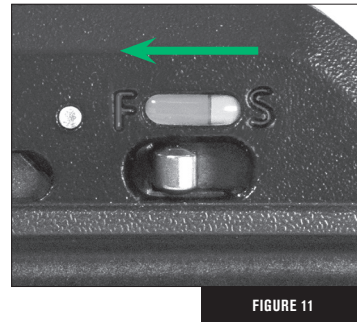

FIGURE 11
- 2c Slide the safety switch forward to the FIRE position. (Fig. 11)